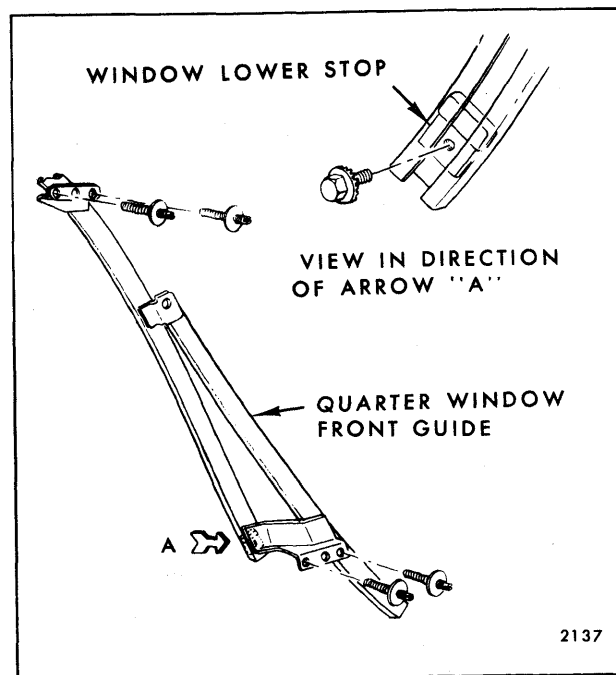

Fig. 8-66—Rear Quarter Window Lower Stop Adjustment - Styles so Equipped
2. Working through access hole, loosen down-stop attaching screw (Fig. 8-66). Slide stop to bottom of guide channel and retighten stop bolt.